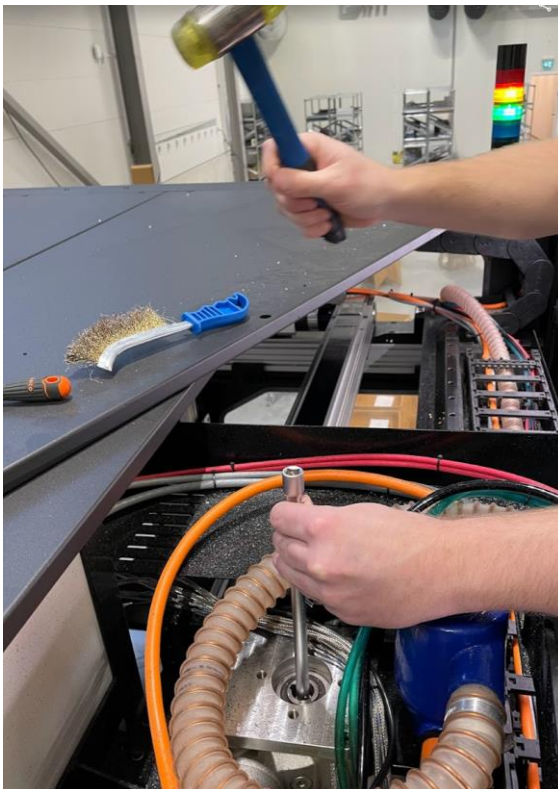

Figure 40e
11. The screw is now loose. If it doesn't come out on its own, it needs to be banked out. Someone has to receive the screw when it comes off. Use protective gloves. See fig 40e